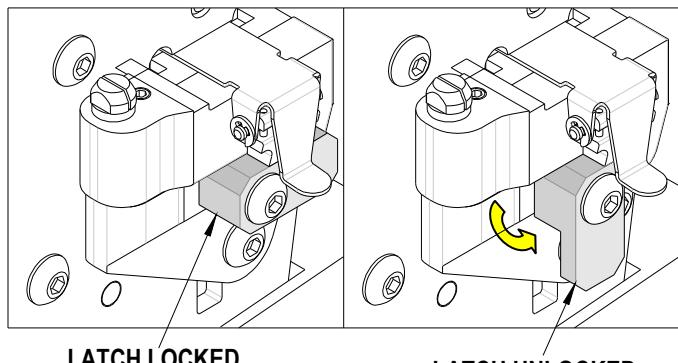

Figure 3
2. Turn the Locator Lock Latch down to unlock. See Figure 3.